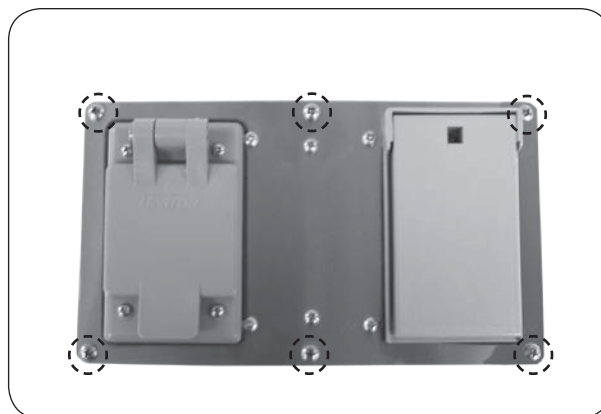

Fig. 40-1 Remove 6 large screws
2. Using a phillips screwdriver, remove the 6 large screws found on the cover of the power supply box (see Fig. 40-1).